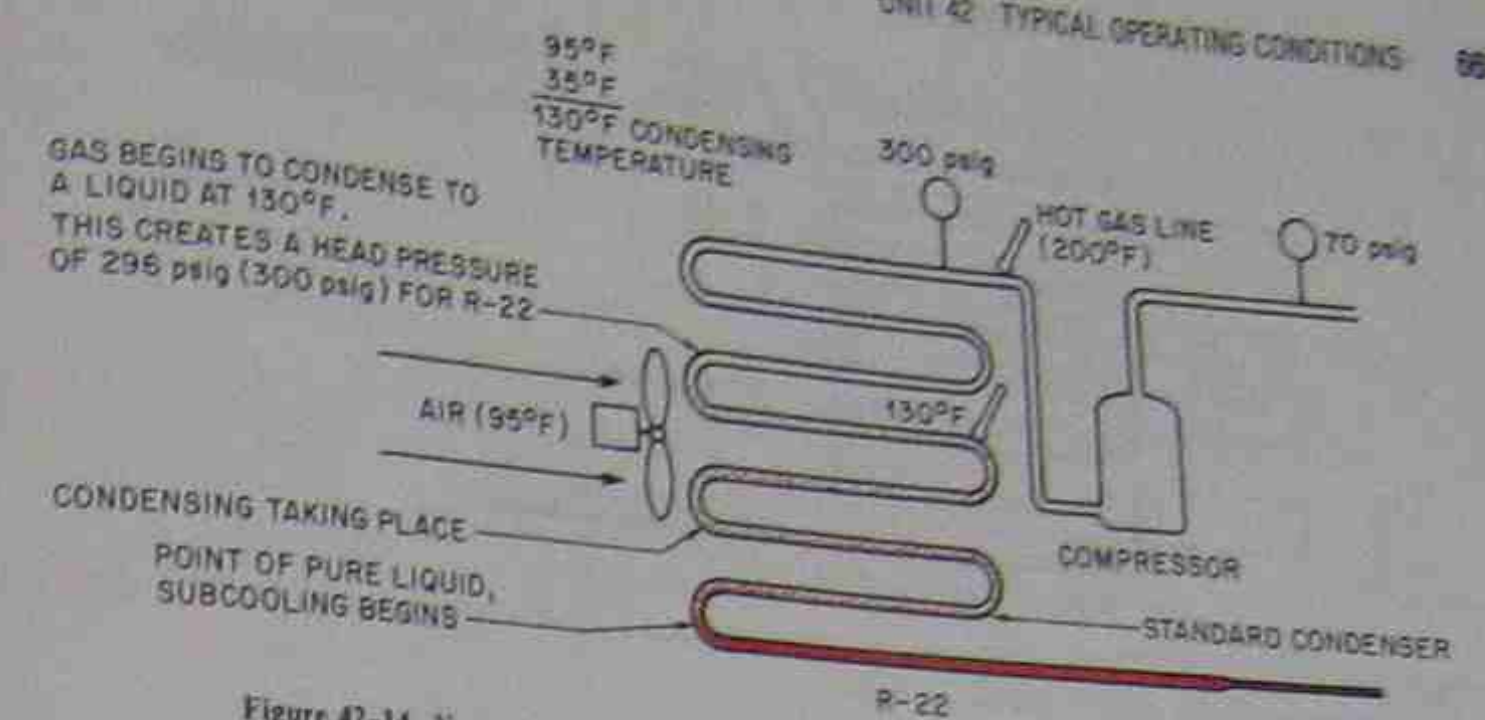

Figure 42-14. Normal conditions of a standard condenser operating on a 95°F day.
2. The head pressure should correspond to a temperature of no more than 35°F above the outside ambient temperature. This would be 296 psig for R-22 and 181 psig for R-12 when the outside temperature is 95°F (95° + 35° = 130°F condensing temperature or a pressure of 296 psig for R-22 and 181 psig for R-12), Figure 42-14.